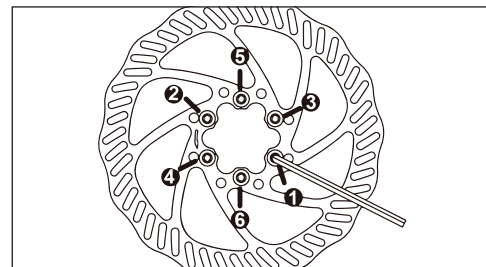
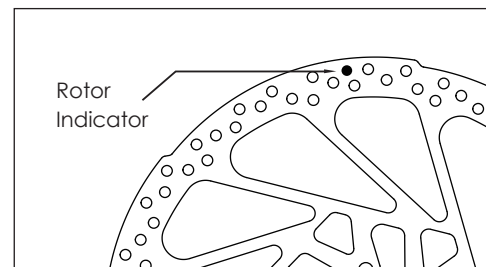

Fig 1
Fig 2
- To ensure a uniform distribution of load, follow the tightening sequence shown on figure 2. (Fig. 1)
- If you see the rotor indicator has worn out and can barely see the black dot, please replace your rotor immediately. (Fig. 2)